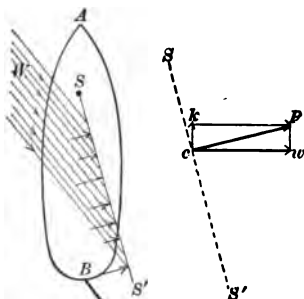

FIG. 124. — Action of wind on a sail.
**116. How a boat sails into the wind.** Let  $AB$  (Fig. 124) represent a boat,  $SS'$  its sail, and  $W$  the direction of the wind. It is sometimes hard to see how such a wind pushes the boat ahead instead of forcing it backward. The wind blowing it against a slanting sail  $SS'$  is deflected and causes a pressure perpendicular to the surface. This pressure can be represented by the arrow  $cP$  in the diagram. The force  $cP$  can be resolved into two components, one useful,  $ck$ , which is parallel to the keel of the boat, and the other useless,  $cw$ , which tends to move the boat to leeward. This sideways movement is largely prevented by a deep keel or a centerboard. So the net effect of the wind is to drive the boat forward.